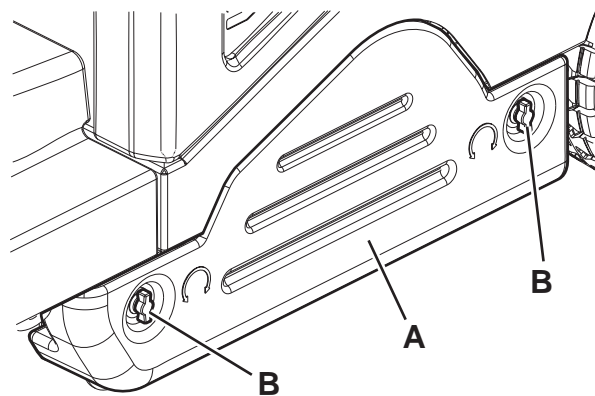

Figure 10
3. Turn the ignition key (51) to "0" and remove it.
4. Remove the left door (A, Fig. 10) by turning the fasteners (B).
*When closing, manually push the main broom to engage it in the conical hub of the closing support (D).*
12. Refit the left door (A, Fig. 10) and close it with the fasteners (B).